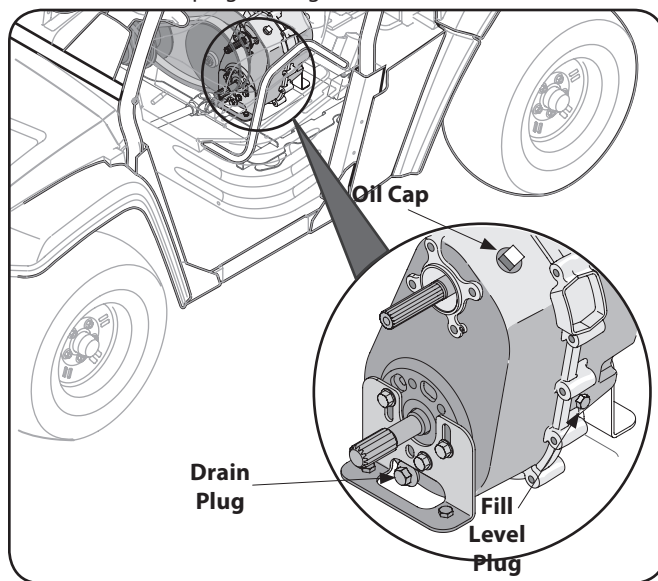

Figure 6-1
4. Access drain plug through slot on underside of machine and remove plug. See Fig. 6-1.
NOTE: If necessary, you may remove the fill level plug to assist with determining the level to which the transmission may be filled. See Fig. 6-1. When oil begins coming out of fill level opening, the transmission is full. Replace fill level plug when finished.